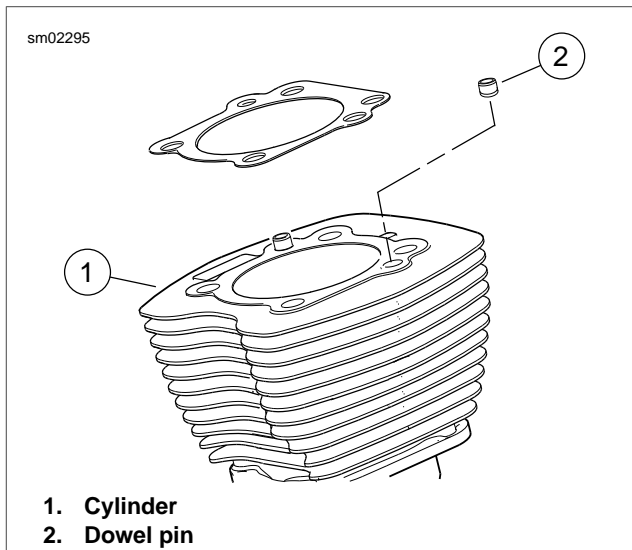

Figure 3-39. Cylinder Dowel Pins
1. See Figure 3-39. With the part number topside, place the head gasket over the two dowel pins in the upper flange of the cylinder.